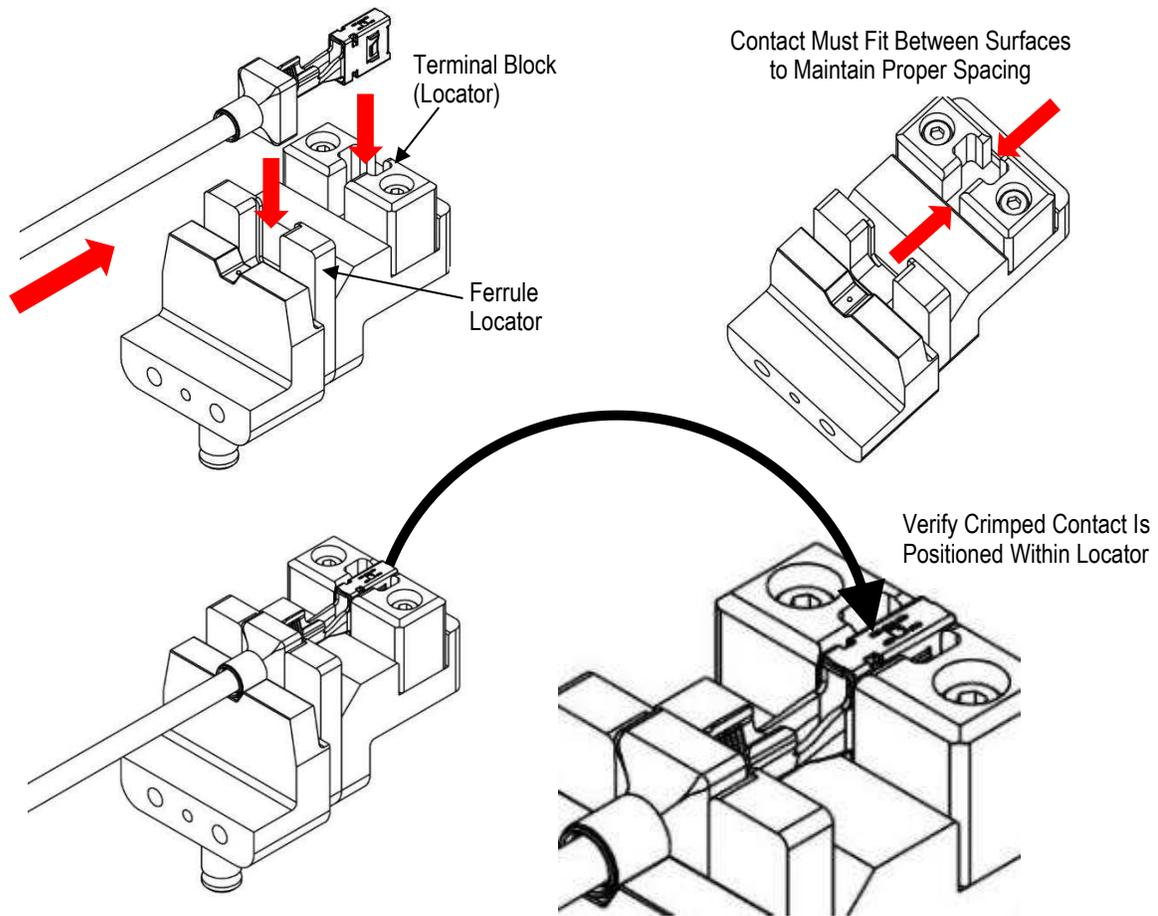

Figure 3
- The crimped contact is inserted into the Terminal Block (Locator). **Note:** The crimped contact should fit within the surfaces identified to ensure proper spacing and orientation (see Figure 3).